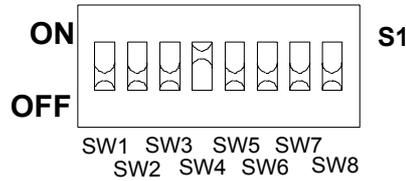

FIGURE 6-1 Switch SW4 in write ENABLE position (ON)
The linear corrections are protected with switch SW4 (see **FIGURE 6-1**) Turn the switch SW4 to write ENABLE position (ON) to be able to turn the linear corrections on or off.
The multipoint corrections are protected with switch SW4 (see **FIGURE 6-1**). Turn the switch SW4 to write ENABLE position (ON) to be able to turn the multipoint corrections on or off.